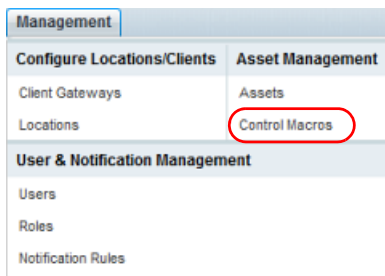

FIG. 272 Management > Configure Locations/Clients > Locations
- To open the *Control Macro Management* page, select **Control Macros** under **Asset Management** in the Management menu (FIG. 272).